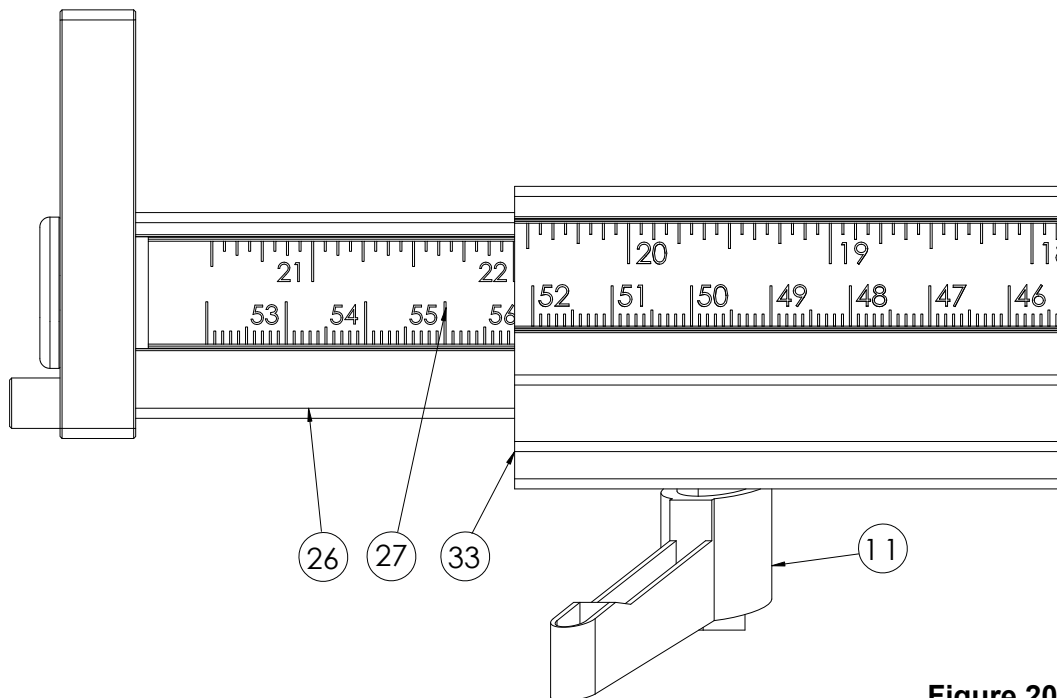

Figure 20
- b. Slide fence extension (Part #26) out until the desired read on the fence extension scale bar (Part #27) is aligned with the end of the fence extrusion (Part #33) See **Figure 20**.